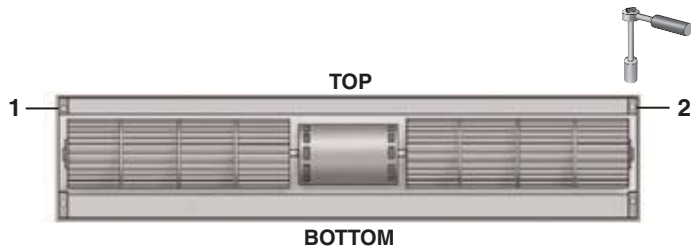

Fig. 9
2. Attach the top mounting plate to the back of the air curtain. Place $\frac{3}{8}$ " hex bolts through the two (2) mounting holes and secure the plate with washers and hex nuts. A ratchet and socket with a long extension may be necessary to secure the plate. (See Figs. 9 & 10)